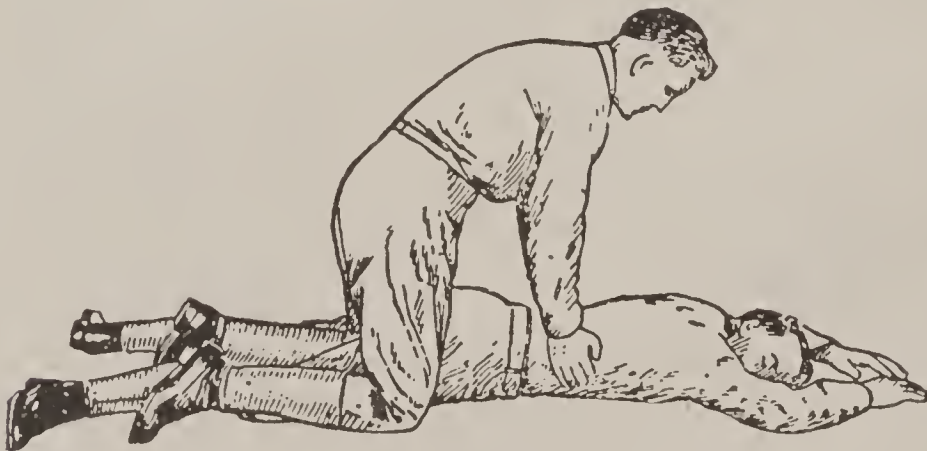

Fig. 11
3. Then lay the patient on a blanket, if possible, and on his stomach, arms extended from his body beyond his head, face turned to one side so that the mouth and nose do not touch the ground. (See Fig. 11.) This position causes the tongue to fall forward of its own weight and so prevents it from falling back into the air passages. Turning the head to one side prevents the face coming into contact with mud or water during the operation.
Kneel and straddle the patient's hips, facing his head. (Fig. 11.)